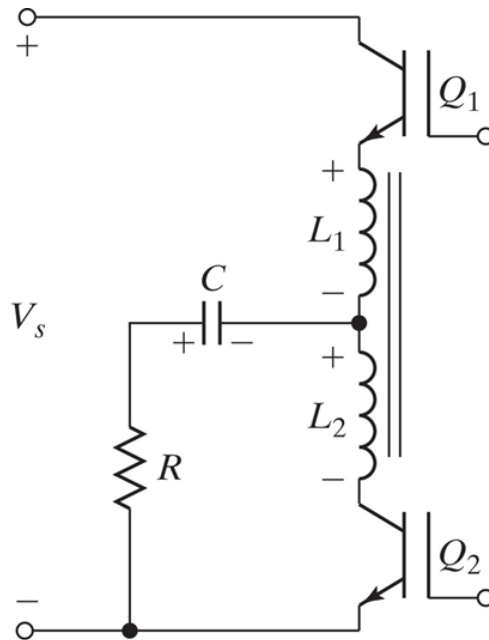

Figure Q5(a)
5. (a) The series resonant inverter in Figure Q5(a) has $L_1 = L_2 = L = 50 \mu H$, $C = 6 \mu F$ and $R = 2 \Omega$. The dc input voltage is $V_s = 220 V$ and the frequency of output voltage is $f_o = 7 kHz$. The turn-off time of the transistor is $t_{off} = 10 \mu s$ and the rms load current is 44.1 A.